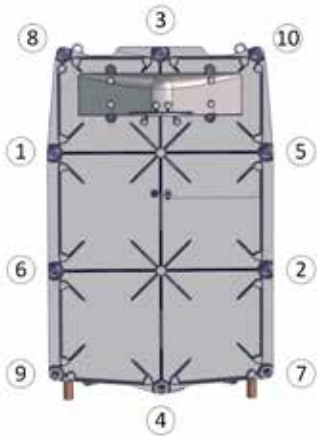

Figure 36: Tighten hex bolts in cross pattern direction.
2. Place the heat exchanger cover onto the heat exchanger and loosely install the 6mm Allen bolts and lock washers removed in step 6. Tighten the 6mm Allen bolts in a cross pattern as shown in the *Figure 36*.